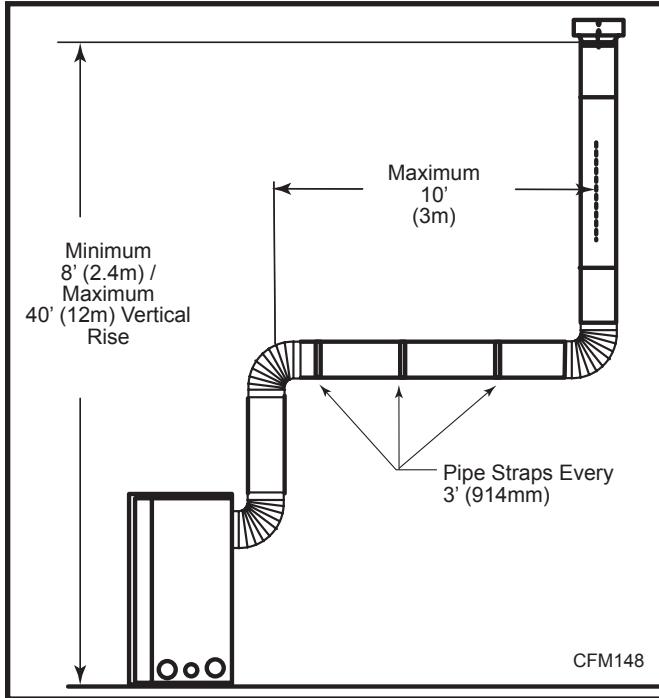

Fig. 32 Support straps for horizontal runs.
- Vertical installations up to 40' (12 m) in height. Up to a 10' (3 m) horizontal vent run can be installed within the vent system using a maximum of two 90° elbows. (Fig. 32)